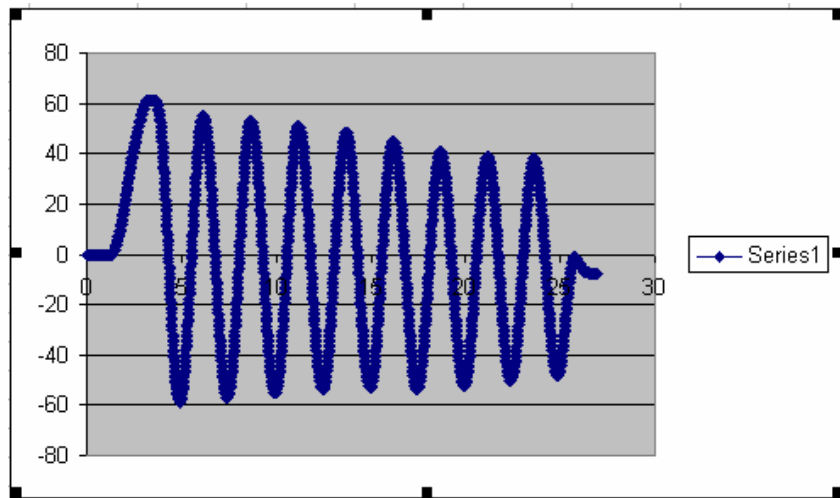

Figure 5: Excel plot of the acquired comma-delimited data
Step 2: From the pendulum's rest position (6 o'clock) execute the VI. Rotate the pendulum counter clockwise to approximately +60-degrees and then release. Let the VI run for about 10 seconds and then terminate the VI. Plot the data in Excel, which should look like Figure 5.